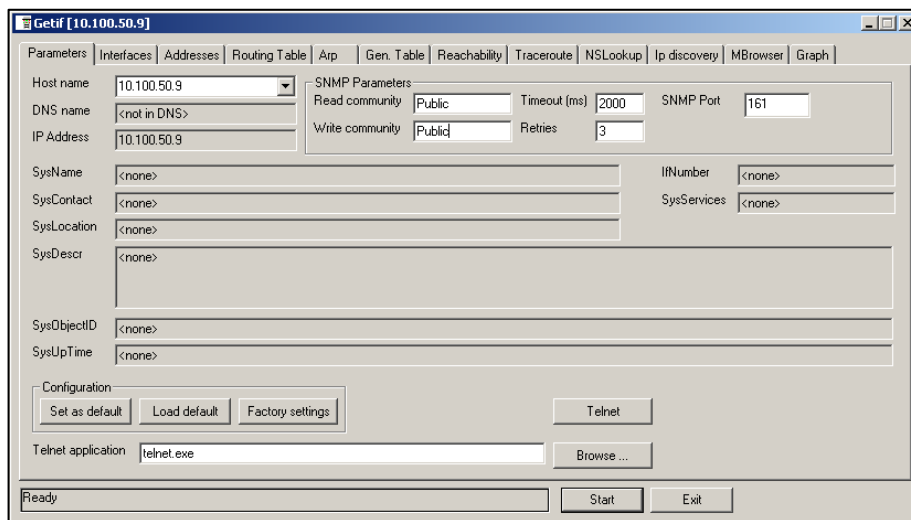

Figure 5-14: GetIF Application Parameters Tab
3. Select the unit IP address and community strings in the relevant text boxes on the Parameters tab (see **Figure 5-14**) and then click the Start button.